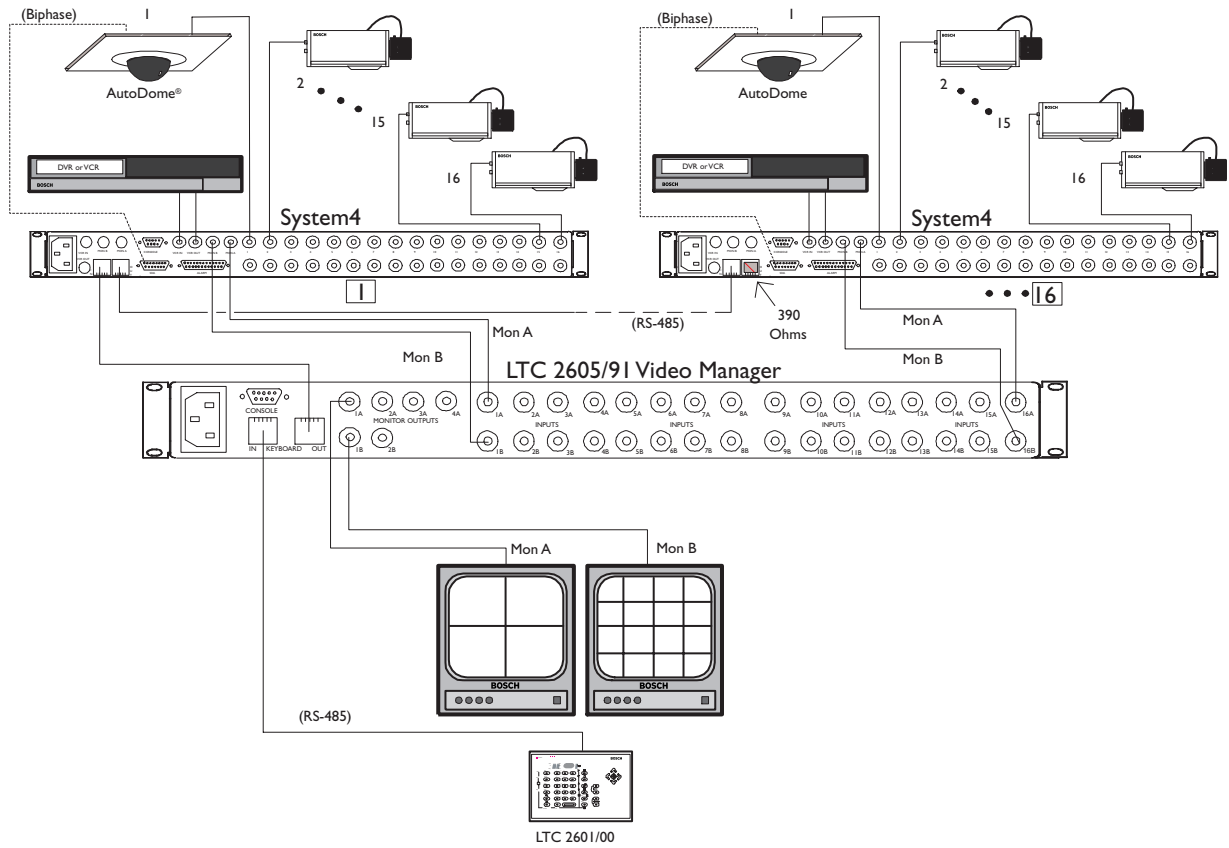

Figure 1 – Video Manager with System4 Multiplexers and LTC 2601/00 Keyboard
- One Keyboard Configuration (Reference Figures 1 and 2 in Section 4: Installation Diagram): The video from Monitors A and B of the device controlled by the first keyboard is displayed on outputs 1A and 1B of the Video Manager, respectively.
Functional Notes for Figures 1 & 2: